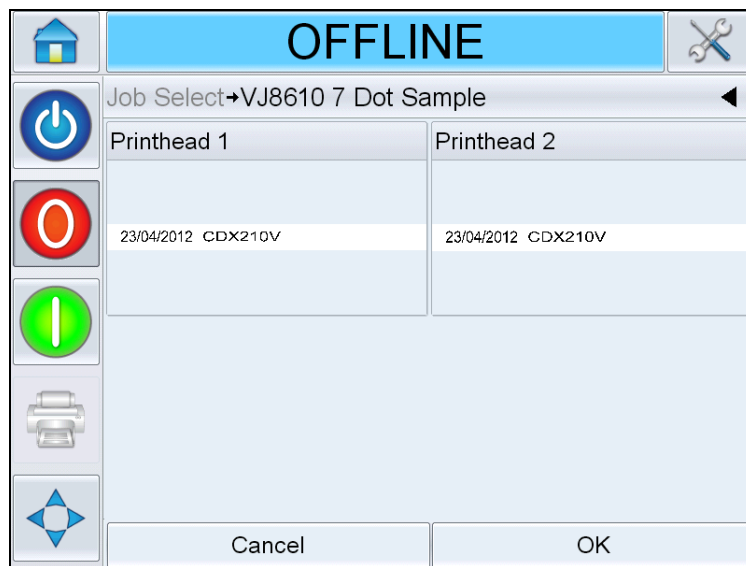

Figure 6-17: Job Select Preview
- c. You can preview the assigned job (see Figure 6-17).